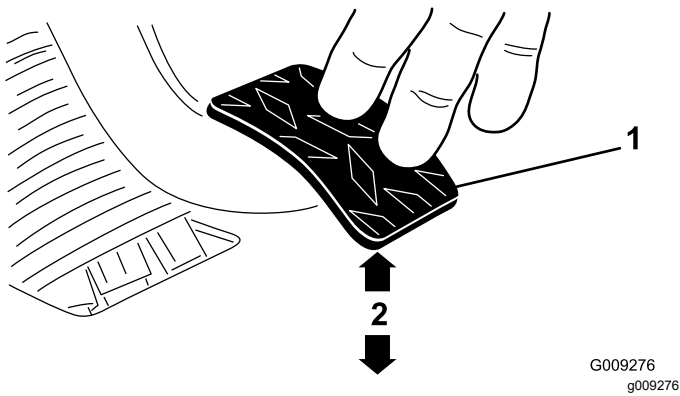

Figure 69
3. Adjust the jam nuts or ball joint until the back, rear edge of the clutch pedal is 9.5 ± 0.3 cm (3.75 ± 0.12 inch) from the top of the floor plate diamond pattern, when an 1.8 kg (4 lb) force is applied to the pedal (Figure 69).